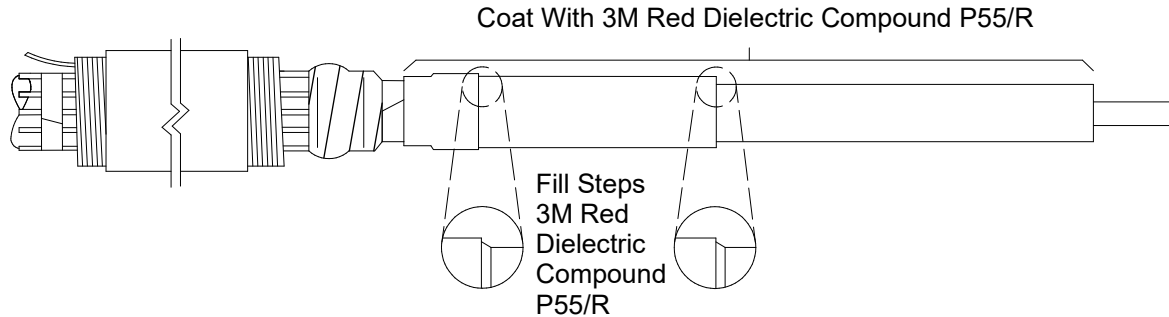

Figure 9
11. Apply 2 tubes 3M Red Dielectric Compound P55/R to the exposed insulation and stress control adapter. Fill the top edge of the stress control tube and the semicon step with the 3M Red Dielectric Compound P55/R. (Figure 9)